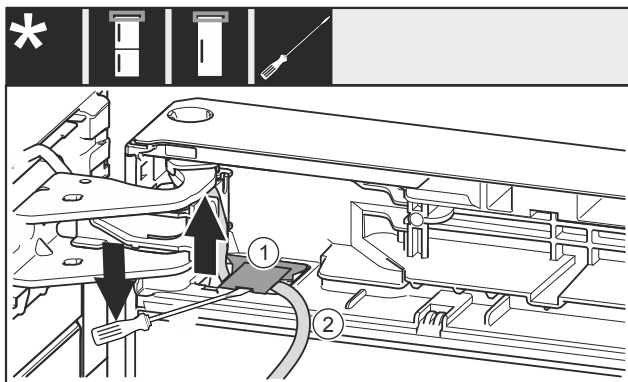

Fig. 20
- Use the slotted screwdriver to lift the cover Fig. 20 (1) up and pull it out.
- Pull out the cable Fig. 20 (2).